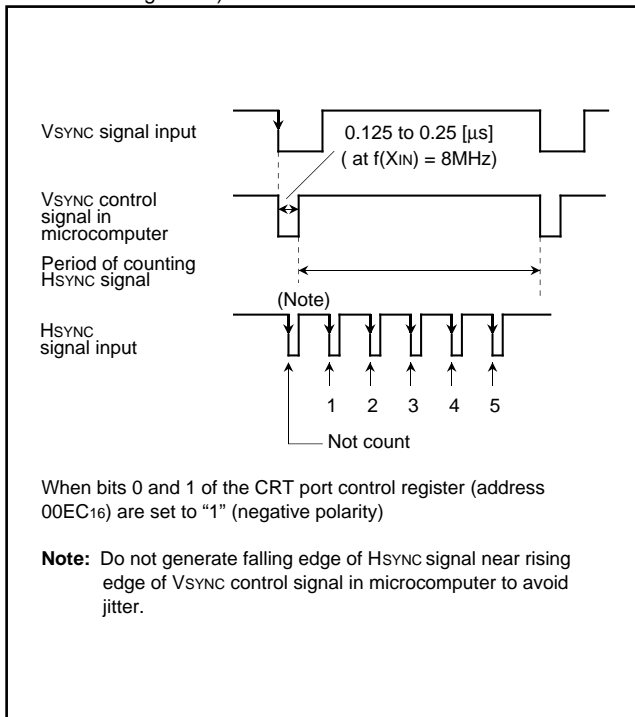

Fig. 27. Supplement explanation for display position
**Note:** When bits 0 and 1 of the CRT port control register (address 00EC16) are set to "1" (negative polarity), the vertical position is determined by counting falling edge of HSYNC signal after rising edge of VSYNC control signal in the microcomputer (refer to Figure 27).